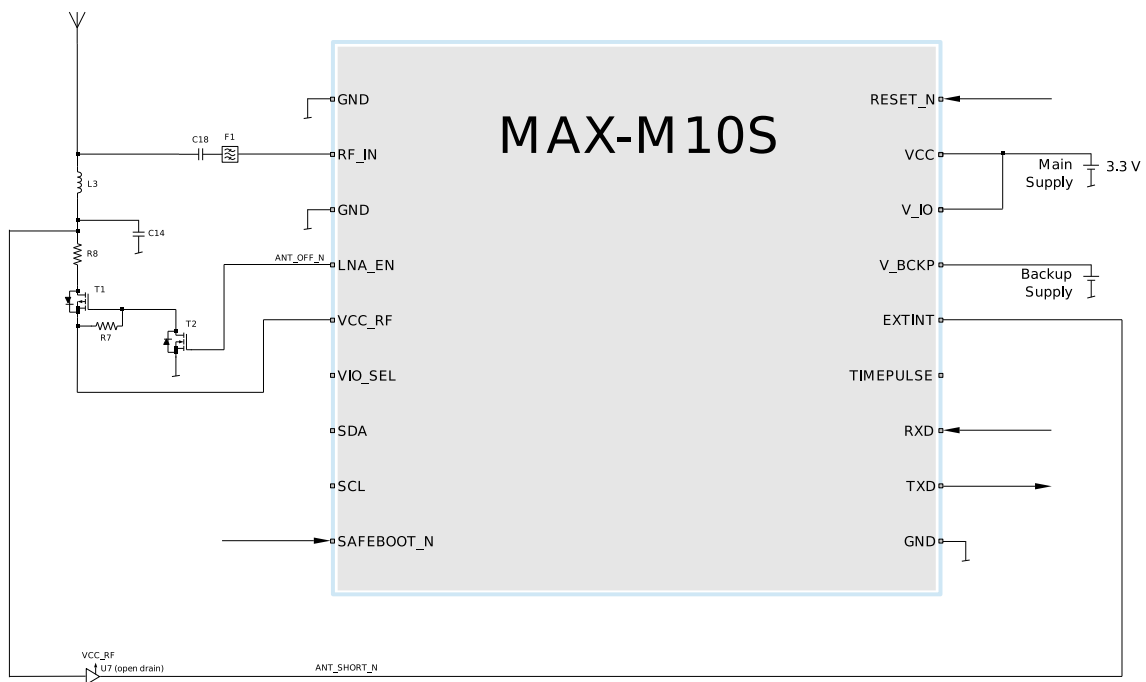
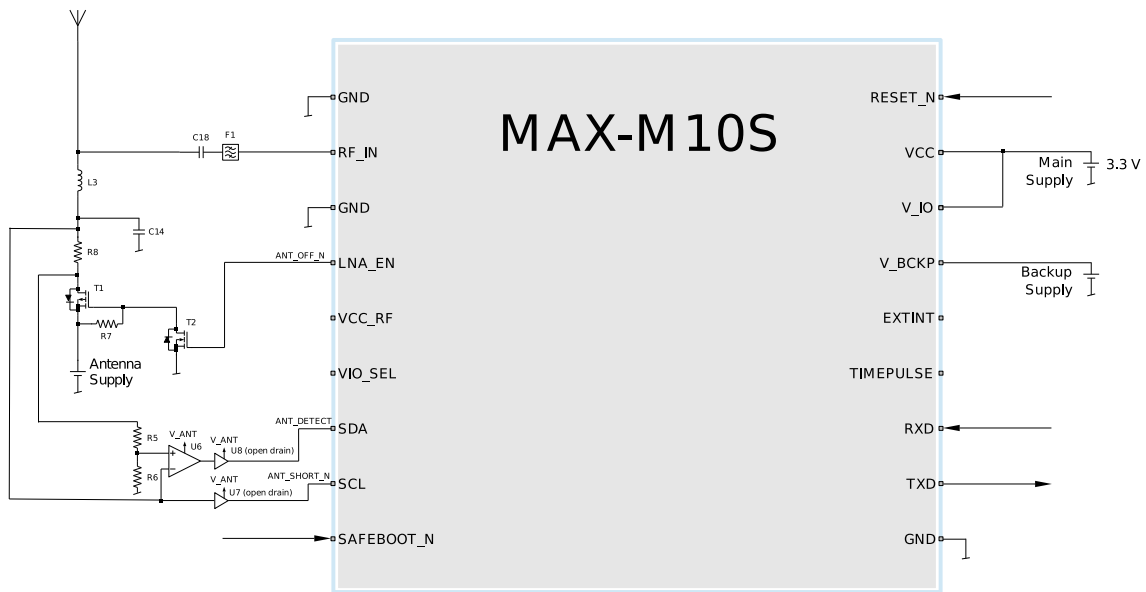

Figure 38: 2-pin antenna supervisor design
Figure 39: 3-pin antenna supervisor design
Migrating from MAX-M8W to MAX-M10S requires special care and may require some re-design because pin 13 and pin 15 are different as shown in Figure 35. Consequently, pin 15 should be left open (i.e. not connected) when migrating from MAX-M8W because there is no built-in antenna supervisor support in MAX-M10S. Therefore in MAX-M10S, the active antenna supply and the antenna supervisor circuitry (if used) needs to be connected externally as shown in Figure 39.
- A passive or active antenna can be used. An active antenna can be supplied either with the VCC_RF output from MAX-M10S, as shown in Figure 38, or from an external supply, as shown in Figure 39. Nevertheless, the internal LNA provides enough gain for passive antennas.
- MAX-M10S has an internal SAW filter and no additional RF front-end components are needed. However, in cellular applications, an external SAW filter can be added in front of RF_IN as shown in Figure 38, which allows an SAW-LNA-SAW RF front-end circuit for improved out-of-band immunity against RF interference from other sources.
Figure 38 and Figure 39 show a reference design for a 2-pin and 3-pin antenna supervisor design respectively. Here are some key features:
- An external SAW filter can be placed on the RF path as shown in Figure 38, which allows an SAW-LNA-SAW RF front-end circuit for improving out-of-band immunity against RF interference from other sources. This is especially useful when MAX-M10S is used in cellular applications.
- UART and I2C communication interfaces are available. I2C PIOs (SDA and SCL) can be used in a 3-pin antenna supervisor design as shown in Figure 39. In this case, the I2C interface needs to be disabled before assigning the new function to the PIOs.
The 2-pin antenna supervisor configuration required for the Figure 38 reference design is listed in Table 34.
The 3-pin antenna supervisor configuration required for the Figure 39 reference design is listed in Table 35.